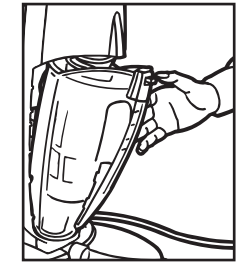

Fig.3/10
1. Disconnect cleaner from electrical outlet. Place cleaner handle in upright and locked position. Fig 3/9.